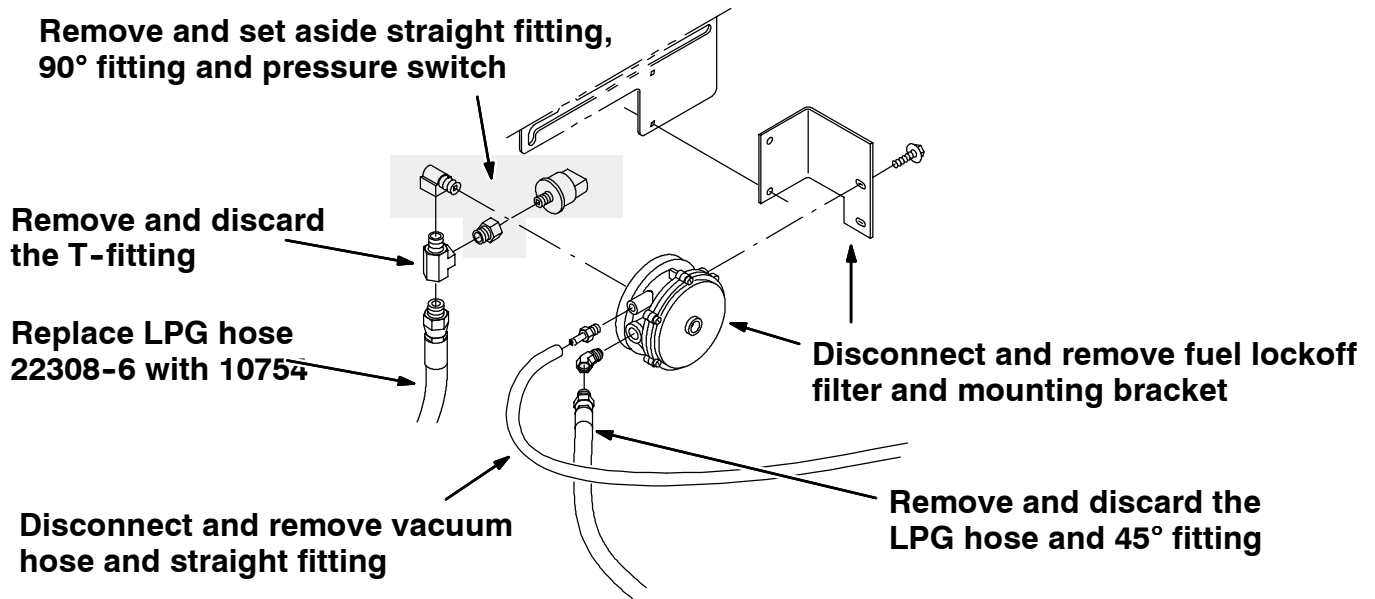

FIG. 3 - REMOVAL, OLD LPG FUEL LOCKOFF FILTER
8. Disconnect and remove the vacuum hose from the fuel lockoff filter. Disconnect the other end of the vacuum hose from the carburetor and discard. (Refer to FIG. 3 and 9)
9. Disconnect and remove LPG hose 22308-6 connected to the T-fitting at the T-lockoff and T-fitting. (Refer to FIG. 3 and 9)
10. Locate the straight fitting and LPG pressure switch. Disconnect the harness from the pressure switch, and mark the harness for reinstallation. Disconnect, remove and set aside the straight hydraulic fitting and LPG pressure switch from the T-fitting. (Refer to FIG. 3 and 9)
11. Disconnect, remove and discard the T-fitting from the 90° fitting. (Refer to FIG. 3 and 9)
12. Remove the 90° fitting from the fuel lockoff and set aside with the straight fitting (17414) and LPG pressure switch (23156). (Refer to FIG. 3 and 9)
13. Remove and discard the fuel lockoff filter and mounting bracket. (Refer to FIG. 3 and 9)